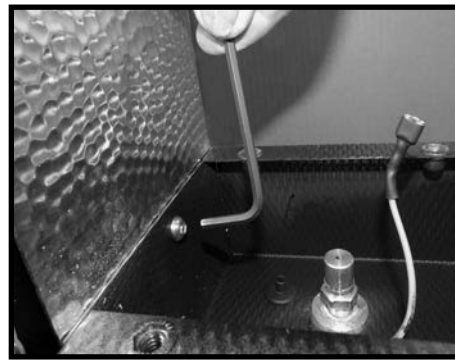

Figure 23: Releasing gas valve assembly from main body.
7. Remove two 5/32 inch Allen screws which attach the gas valve assembly to the HeliFire 360 body (Figure 23).